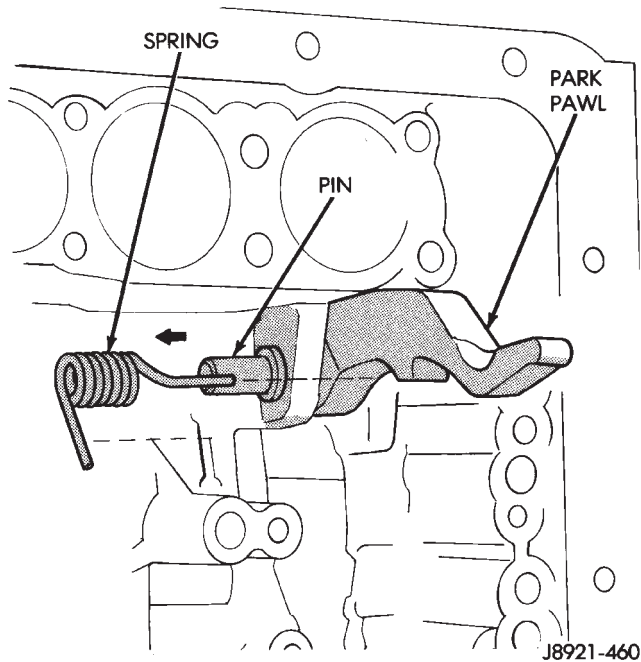

Fig. 42 Removing Park Pawl, Pin And Spring
(51) Remove park pawl spring, pin and pawl (Fig. 42).